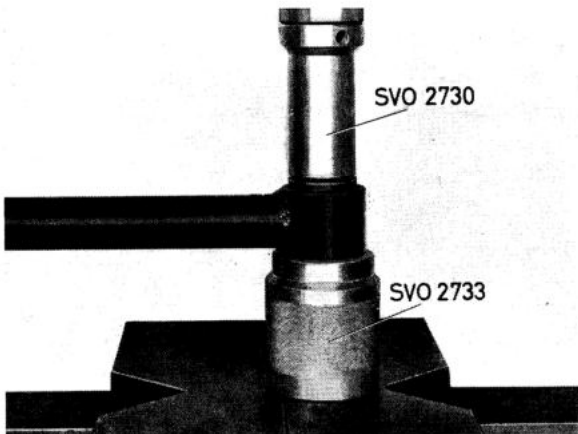

Fig. 7-11. Removing the small bush, track bar
5. The large bushes are pressed out with SVO 2731, and SVO 2733 as a counterhold (Fig. 7-11). When pressing in the bushes, SVO 2731 is reversed (Fig. 7-12).
6. Fit the bar with the screw to the frame bracket (12).
7. Place the other end on the rear axle bracket (6) and fit both washer and nut. Screw on the frame bracket nut.